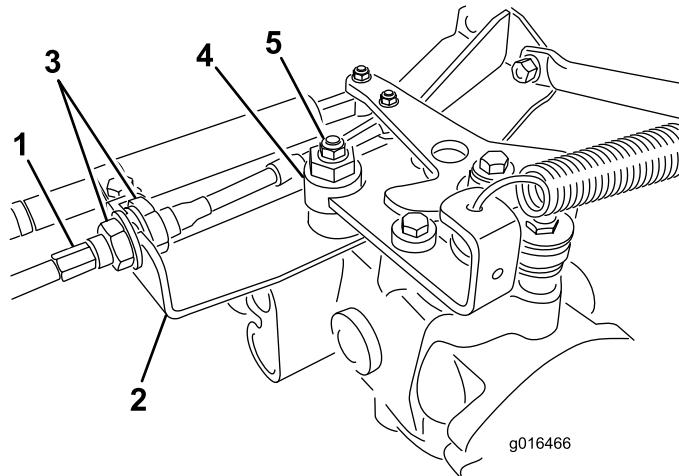

Figure 43
- A. Loosen both jam nuts securing the traction control cable to the bulkhead on the hydrostat (Figure 43). Make sure the jam nuts are loosened equally and sufficiently to allow adjustment.
- B. Loosen the nut securing the eccentric to the top of the hydrostat (Figure 43).
- D. Rotate the eccentric until creep does not occur in either direction. When the wheel stops rotating, tighten the nut locking the eccentric and the adjustment (Figure 43). Verify the adjustment with the throttle in the Slow and Fast position.
E. From each side of the bulkhead, tighten the locknuts **evenly**, securing the traction cable to the bulkhead (Figure 43). Do not twist the cable.